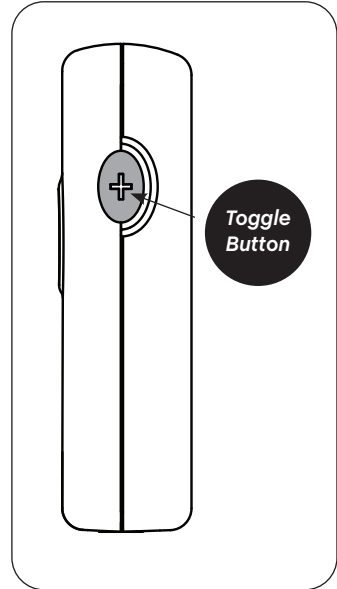

figure 7: Check Device Charger
A. Check to make sure the Power Controller holds enough charge to provide the desired duration of treatment. Press the *Toggle Button* on the **sam** Power Controller to view the battery indicator lights (Figure 7). The lights will illuminate to show how much battery life is remaining in the device. If the device is not fully charged it may not be able to deliver treatment for 4 hours. The device will only permit the user to set a treatment duration for which the battery charge is capable of fulfilling.